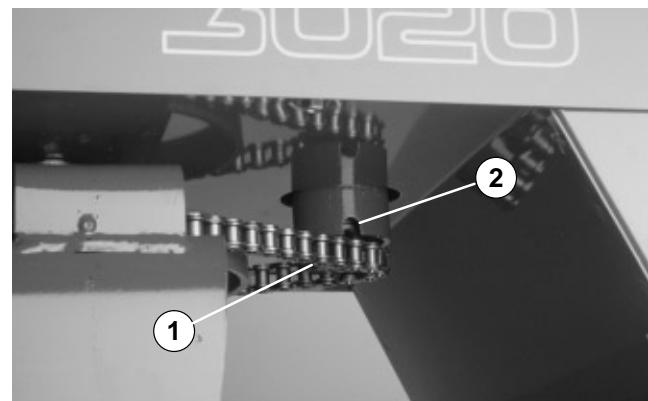

Figure 17
2. Remove drive-lock pin from the sprocket and lower steering shaft with drift punch (Fig. 17).
3. Secure sprocket to the lower steering shaft with **new** drive-lock pin (Fig. 17).
4. Remove drive-lock pin from the sprocket and lower steering shaft with drift punch (Fig. 17).